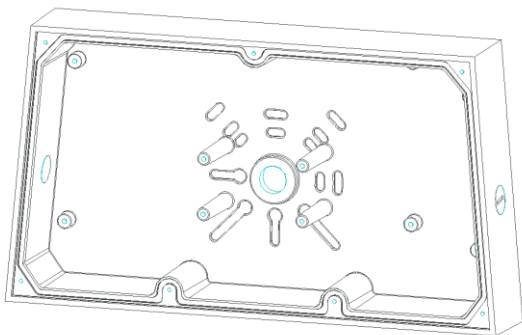

Figure 12
2. Remove the cover plate from the SBB (Figure 12).
3. Drill out desired holes in the back of the SBB (Figure 12).